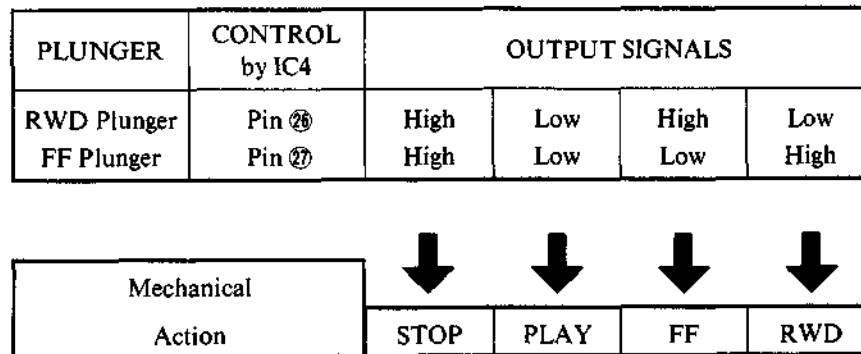

Fig. 6-1 TAPE SELECTOR OPERATION
3. Refer to Fig. 6-1, for above adjustments.